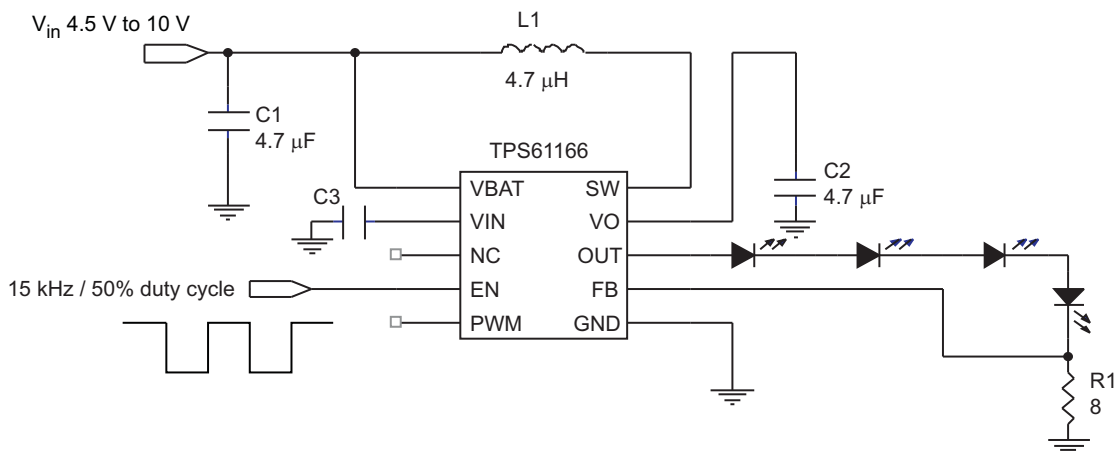

Figure 2. Two Cell Li-Ion Battery Typical Application
- (1) These values are recommended values that have been successfully tested in several applications. Other values may be acceptable in other applications but should be fully tested by the user.
- (2) For a two cell Li-ion battery application or input supply above 6 V as shown in Figure 2, C3 is needed for the internal pre-regulator. Otherwise, C3 is not needed as shown in Figure 1.